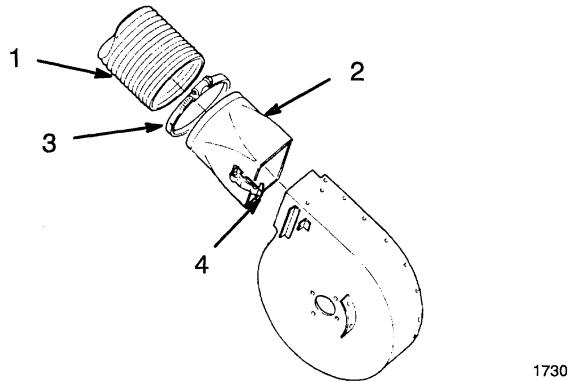

Figure 13
1. Assemble tube onto adaptor and secure with clamp (Fig. 13).
2. Slide adapter onto blower assembly and secure with latch handle (Fig. 13).